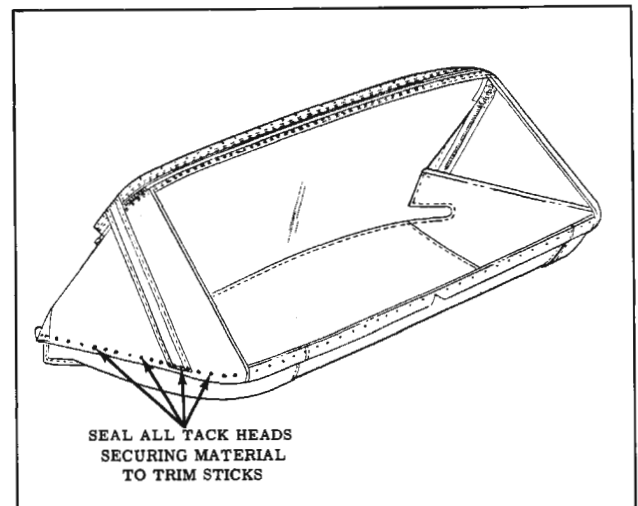

Fig. 16-127 Back Curtain Sealing
22. Apply convertible top sealer (nitrile) around each tack head used to secure back curtain material and webbing to rear and/or rear quarter trim sticks. (Fig. 16-127)